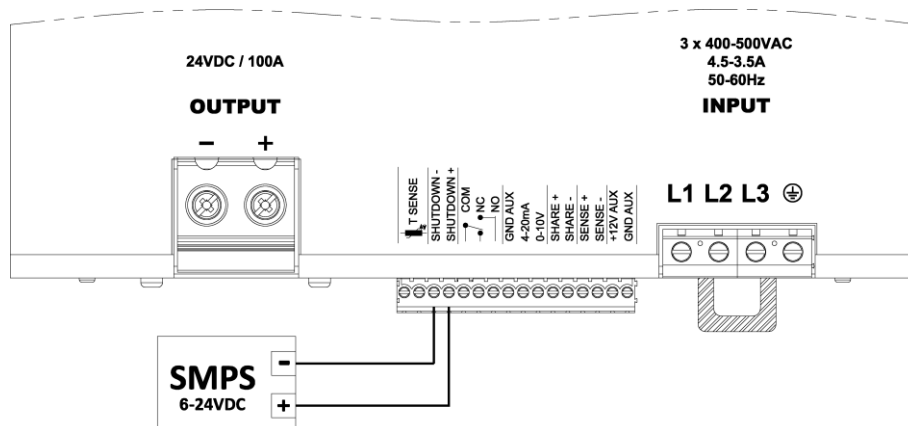

Figure 14 : Remote shutdown input connection with external signal
- External signal:** when applying an external DC voltage as shown on Figure 14 from 6VDC to 24VDC to the SHUTDOWN inputs the NPS2400 output will be turned ON or OFF depending on the programmed shutdown polarity (see §6.4.9).